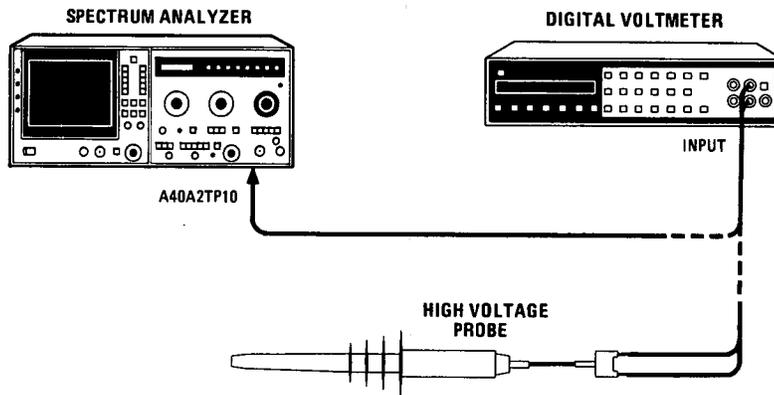

Figure 5-3. High Voltage Power Supply Adjustment Test Setup
- a. Set digital voltmeter (DVM) to AUTO range, measure output of +158V supply at A40A2TP10 with standard DVM probe, and record reading. (See Figure 5-3.)